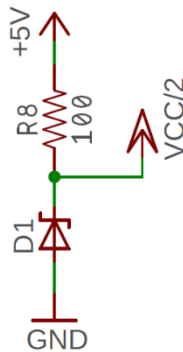

Figure 1: A Zener diode-based regulator.
breakdown voltages to choose from. We are using a Zener diode with a 2.5V breakdown voltage configured as shown in Figure 1.
2. The power dissipated in a Zener diode is the breakdown voltage (the voltage drop across it) times the current. What is the power dissipated by the Zener diode on our board (shown in Figure 1)? Represent your answer in milliwatts.